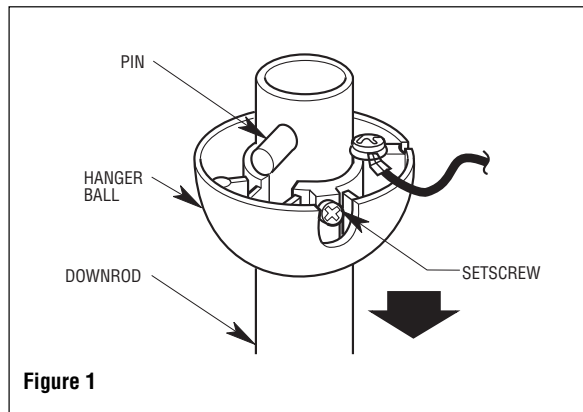

Figure 1
2. Loosen setscrews in motor coupling. Separate, untwist and unkink the two 80" motor leads. Route the motor lead wires through the downrod. Insert the downrod into the motor coupling. Align the clevis pin holes in the downrod with the holes in the motor coupling. Install the clevis pin and secure with the hairpin clip (Figure 1). The clevis pin must go through the holes in the motor coupling and the holes in the downrod. Be sure to push the straight leg of the hairpin clip through the hole near the end of the clevis pin until the curved portion of the hairpin clip snaps around the clevis pin. The hairpin clip must be properly installed to prevent the clevis pin from working loose. Pull on the downrod to make sure the clevis pin is properly installed.